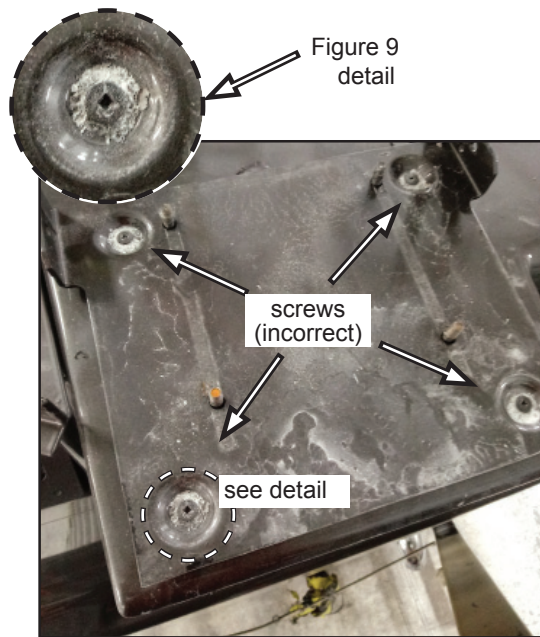

Figure 9
- If screws are found (see Figure 9), proceed to Step 13.